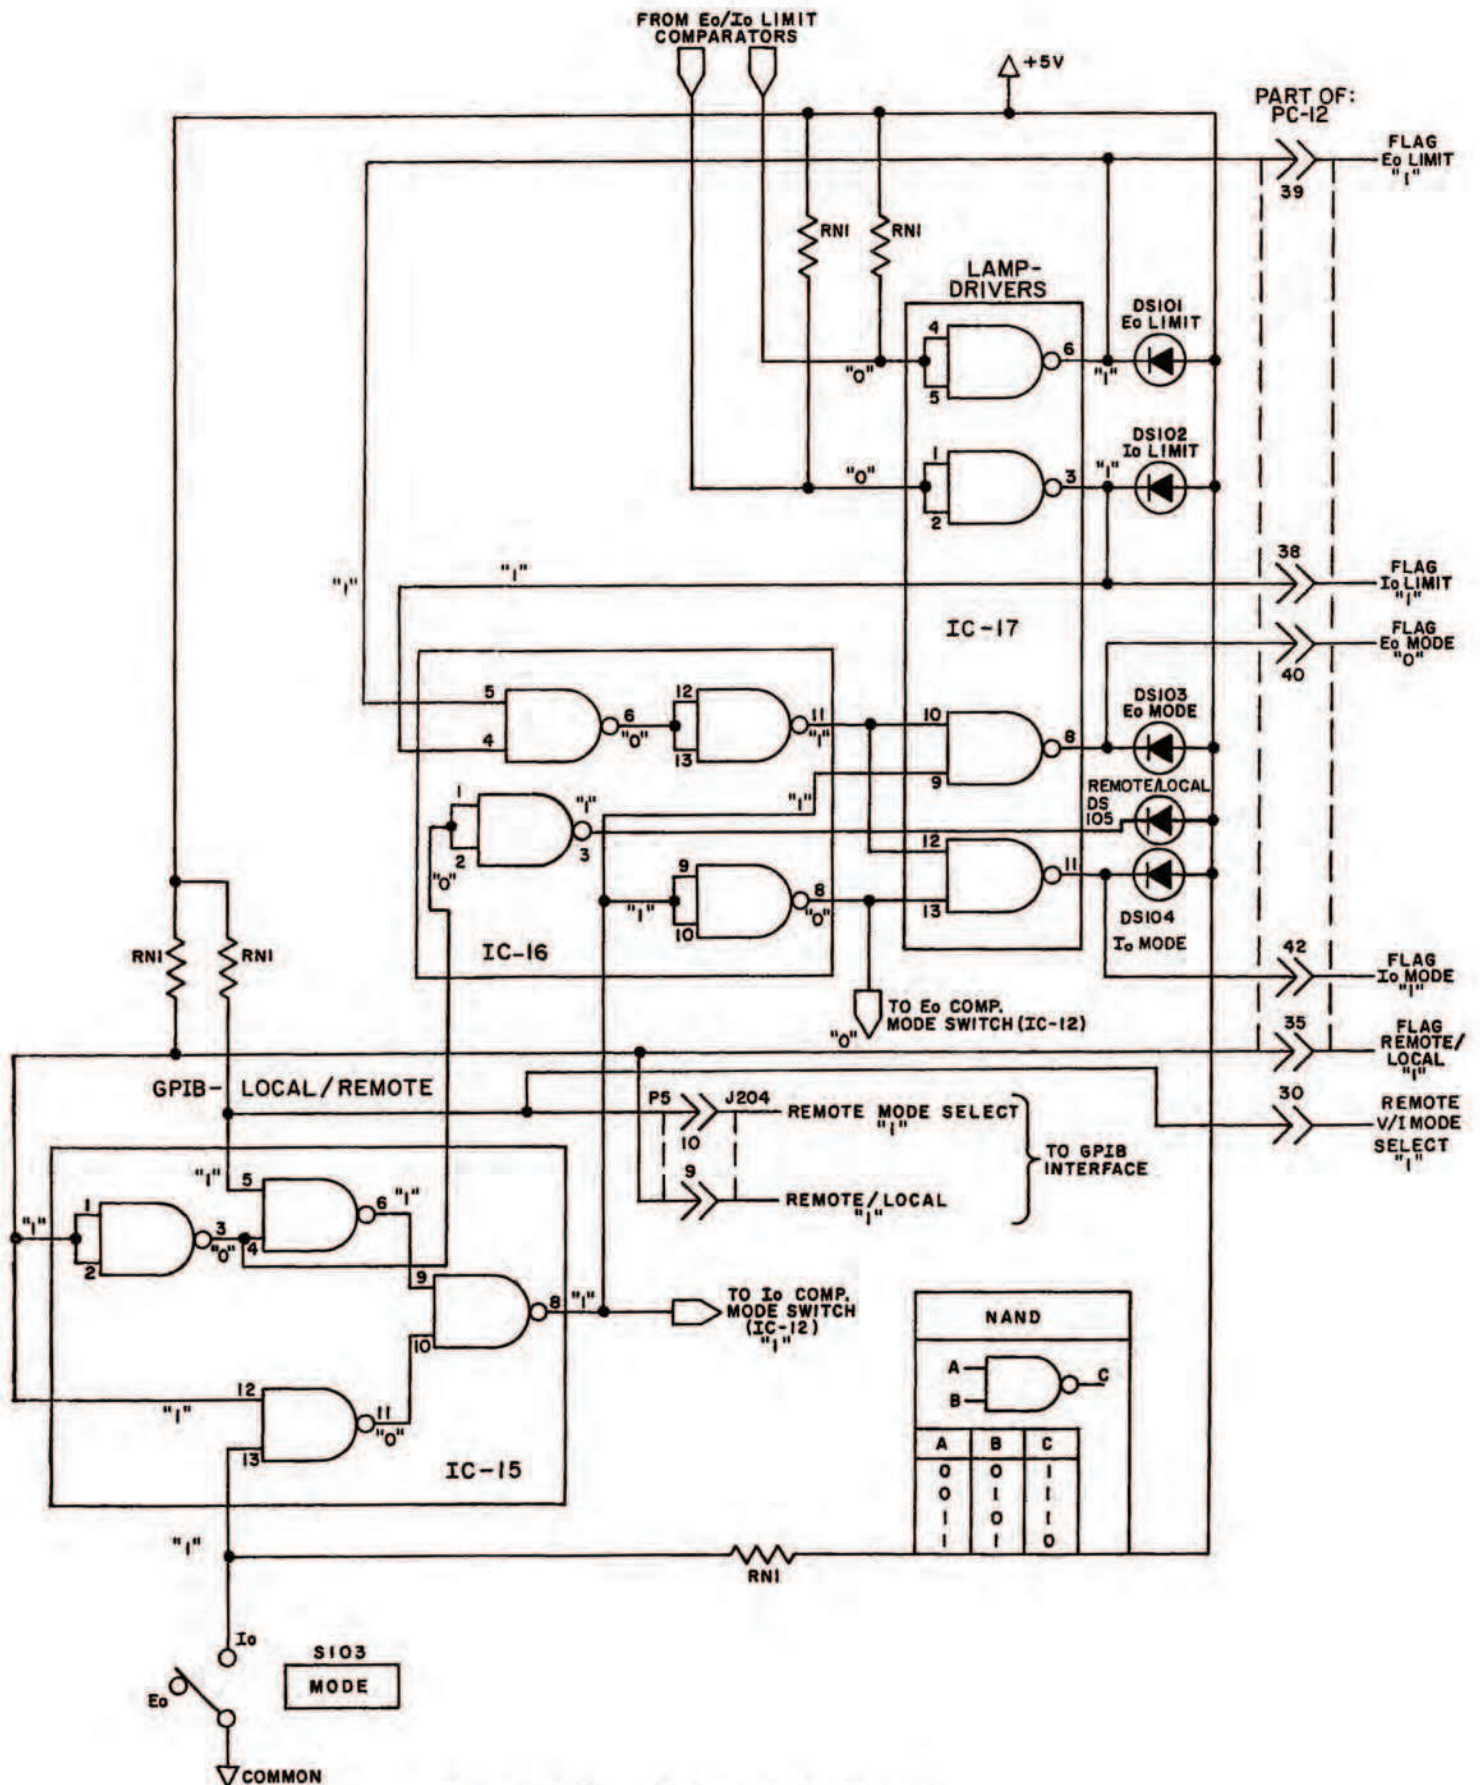

FIG. 3-29 INDICATOR LIGHT AND FLAG LOGIC. CONDITIONS SHOWN: Eo MODE, GPIB "LOCAL".
3-85 **THE INDICATOR AND FLAG LOGIC CIRCUIT (SEE FIG. 3-29).** Digital Logic Circuits (IC15, IC16, IC17) are used in the BOP to drive the LED front panel lamps which indicate the prevailing operating mode:
- 3-86 The logic status indicated in FIG. 3-29 are valid for the BOP operating in the voltage mode ( $E_0$  MODE) and not driven by the GPIB INTERFACE. If the GPIB interface is connected, control of the BOP output may be assumed by the external controller, once the "REMOTE" command is applied via J204/P5 Pin 6. At this time, the REMOTE/LOCAL FLAG (PC-12 pin 35) will go to "0", the REMOTE front panel lamp goes on and the front panel MODE SWITCH (S103) is no longer functional. All other front panel LED indicators will function as in the local control mode.